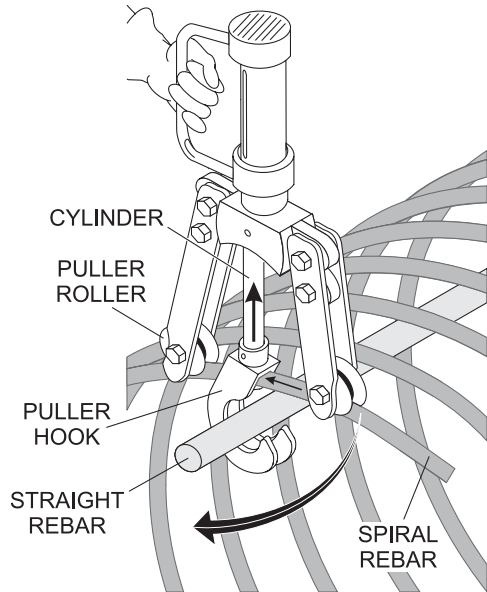

Figure 15. JB5135 Rebar Placement — Rebar Bending
2. Send the end of the spiral rebar through the gap in the puller hook. Secure the puller hook around the straight rebar and align the puller rollers on the spiral rebar (Figure 15).